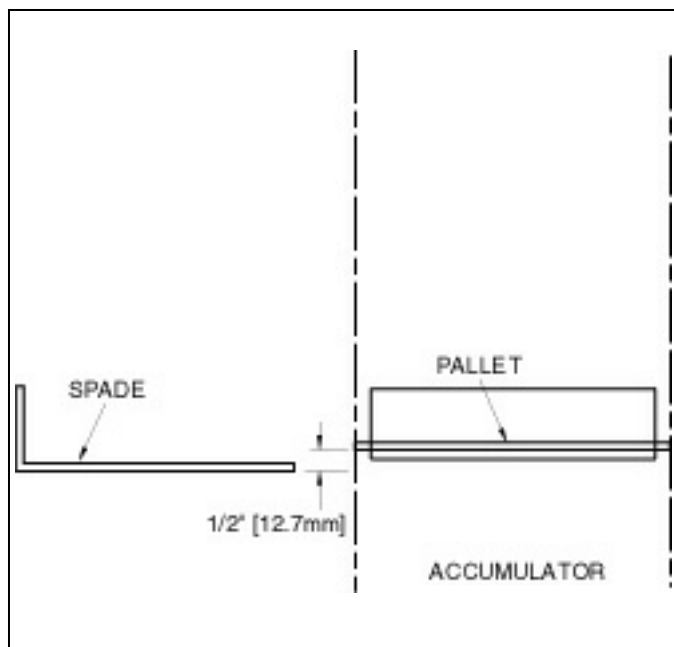

Figure 2.23 SWITCH LS-24 ADJUSTMENT.
2.2.5.4 With empty pallets set on the unloading spade, manually move the spade (see section 4.2) until it reaches the Accumulator but does not enter. Then move spade up and down until the bottom of pallet is 1/2" [12.7mm] above shelf angle as presented in figure 2.23. Then move cam until switch LS-24 is actuated (screen will indicate that switch has been tripped).